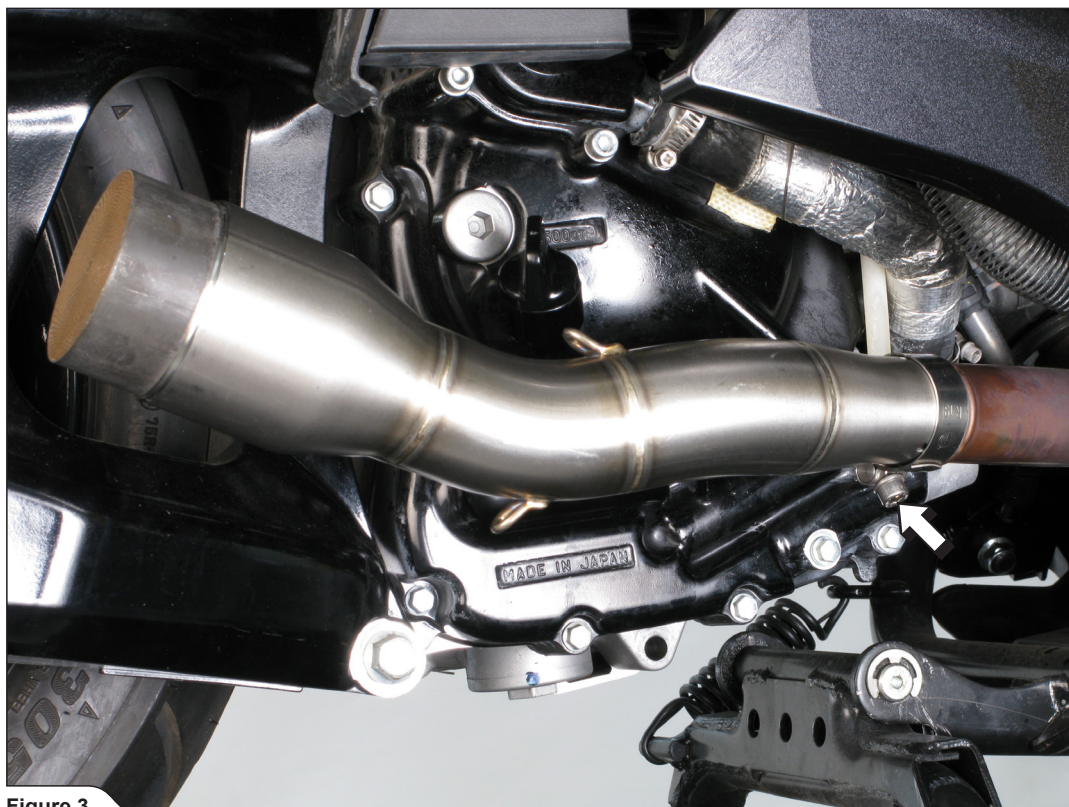

Figure 3
2. Correctly position and slide the Akrapovič link pipe onto the stock header and hand tighten the clamp (Figure 3).